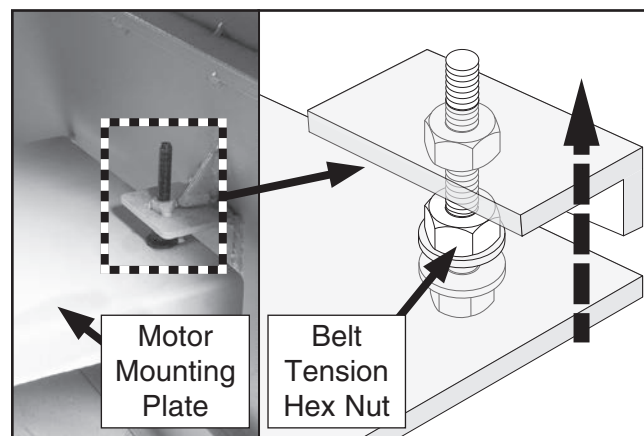

Figure 55. Location of belt tension hex nut for raising/lowering motor plate.
9. Turn belt tension hex nut (see **Figure 55**) clockwise to raise motor mounting plate until both belts are loose and can be rolled from pulleys.